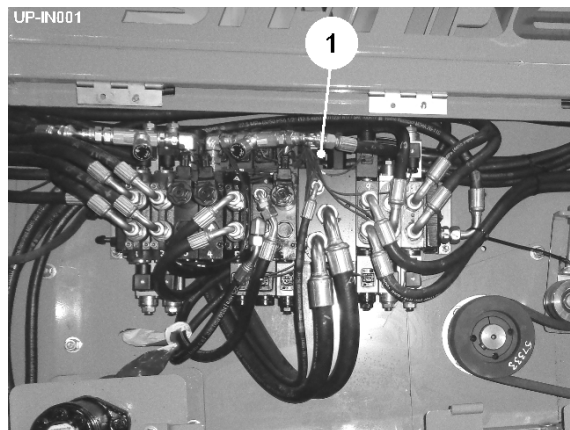

Fig 3
The main hydraulic valve bank incorporates an adjustable screw (item 1, fig 3) which enables easy changing from closed-centre to open-centre.